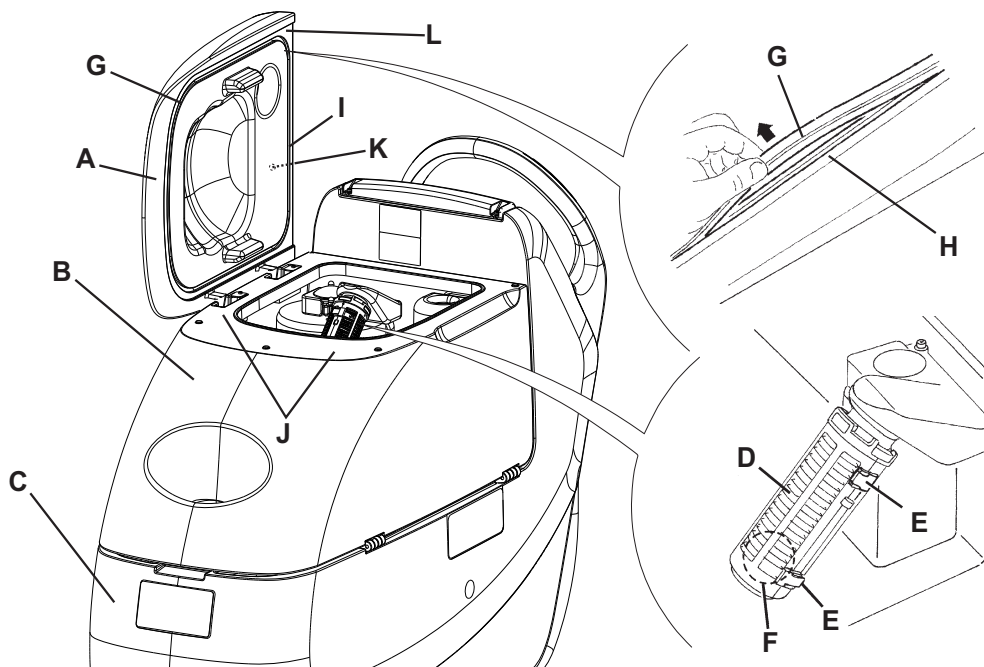

Figure 4
1. Disconnect the power supply cable (3) from the electrical mains and place it on the holder (4).
3. Open the cover (18) to position (L, Fig. 4).
4. Wash with clean water the cover (A), the tanks (B and C) and the vacuum grid with automatic shut-off float (D).
6. If necessary, release the fasteners (E) and open the grid (D), recover the float (F), clean all the components and then reinstall them.
7. Check the tank cover gasket (G) for integrity.